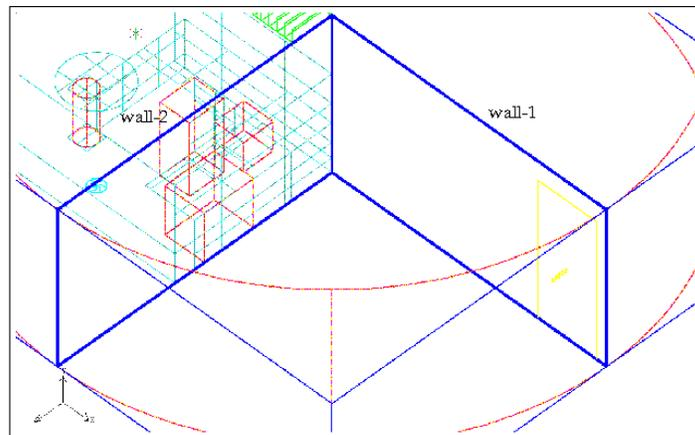

Figure 4.10: Close-Up View of the Wall Objects
- (a) Use the right mouse button to zoom out of the CAD geometry representing the walls and the middle button to translate the view, as shown in Figure 4.10.
- ii. Using the left mouse button, click on the rectangle that comprises the first wall in the graphics window, identified as **wall-1** in Figure 4.10.